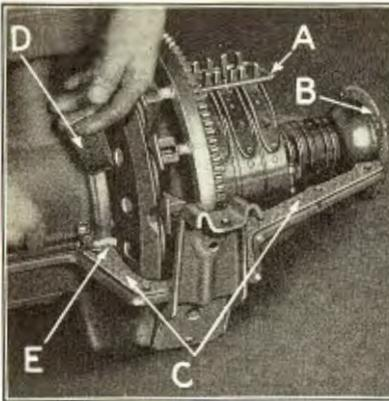

Fig. 304
spread and are firmly imbedded in the lining. This prevents any possibility of scoring the transmission drums. The bands are installed one at a time by slipping them over the triple gears and edge of reverse drum, with the lugs downward; while in this position, the band is then turned until the lugs are on top. The first band installed is slipped to the rear (brake) drum; the second band to the center (slow speed) drum; while the third band is positioned on the third (reverse) drum (See Fig. 302). Bands must be turned so that the lugs are on top while the band is positioned over triple gears and edge of reverse drum, as there is not sufficient clearance between transmission drums and crankcase to permit installing the bands at any other point. To facilitate this operation turn flywheel so that one set of the triple gears is approximately 10° to the right or left of top center on flywheel. The bands are temporarily held in place on drums by means of a clip (See "A" Fig. 304).
- (a) Carefully examine ball cap gasket "B" and the cork and felt transmission cover gaskets "C" and "D" (Fig. 304). Unless these gaskets are in first-class condition they should be replaced with new gaskets; otherwise an oil leak will develop.
- (c) When installing felt gasket a small piece of candle wicking "E" (Fig. 304) is inserted under end of felt gasket.